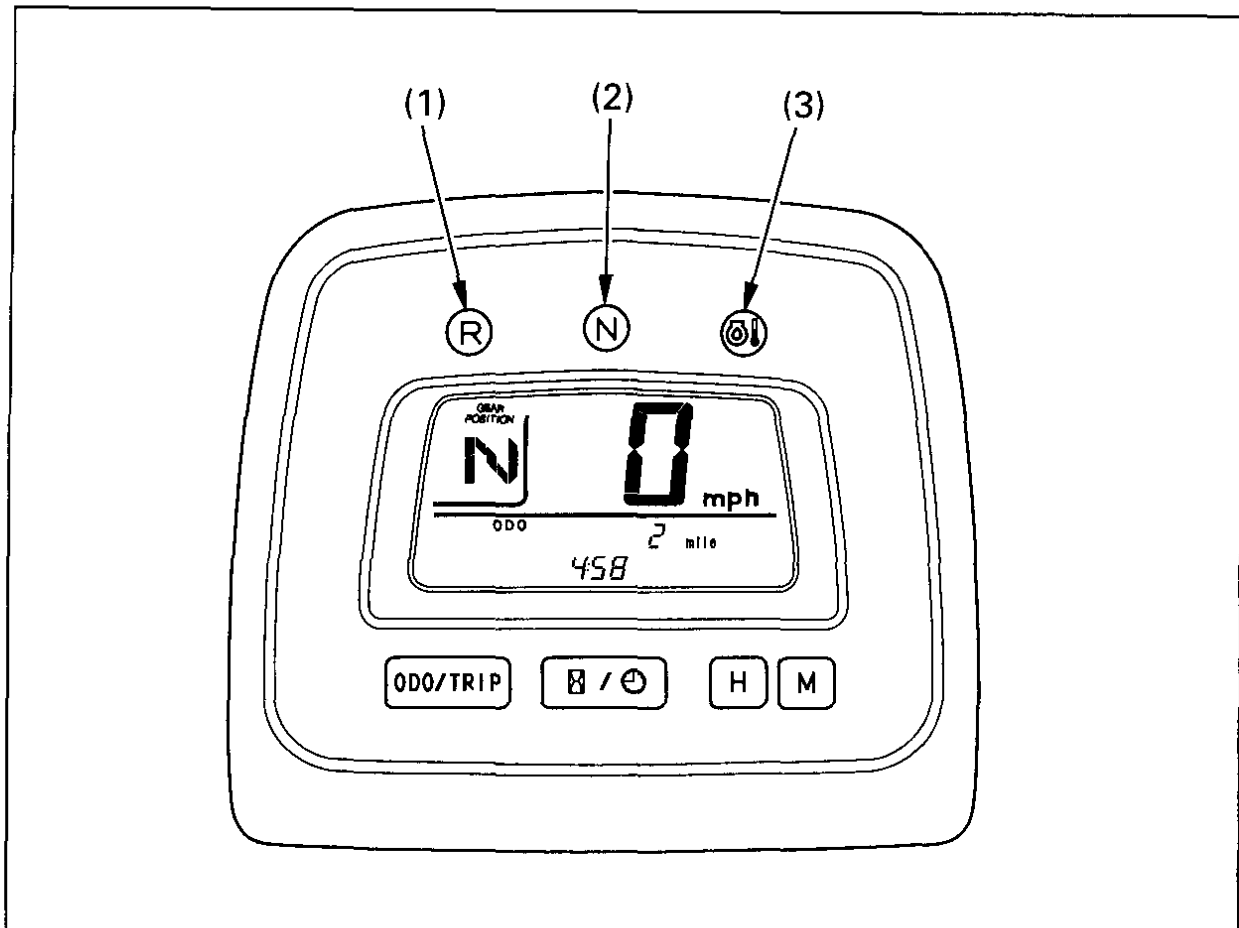

Fig. 2-13
The reverse indicator (1) and the neutral indicator (2) (Fig. 2-13) are located above the multi-function display.
If the engine oil gets too hot, the oil high temperature indicator (3) (Fig. 2-13) will light.